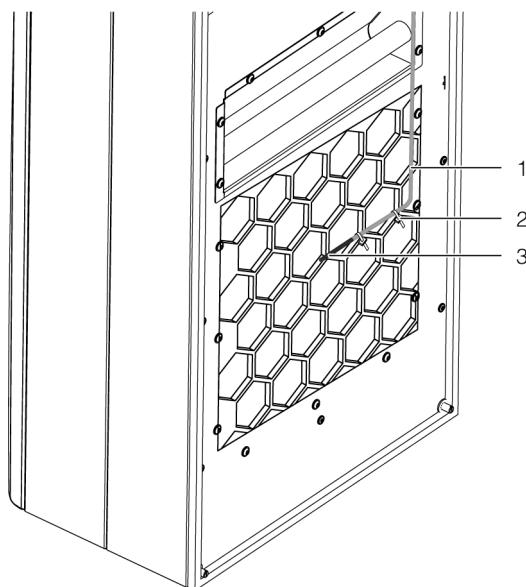

Fig. 24: Temperature sensor in front of cold air outlet (example illustration)
- Attach the temperature sensor in front of the cold air outlet from the cooling unit, in the centre (fig. 24).